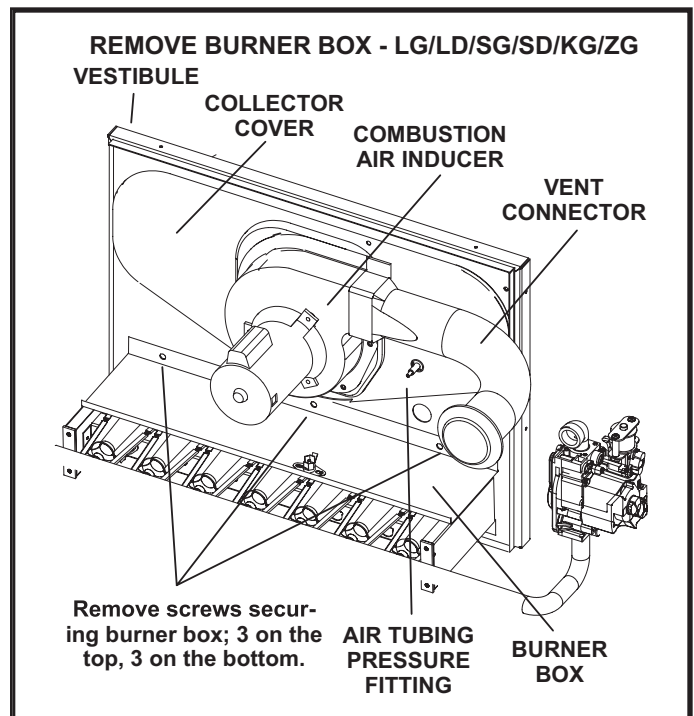

FIGURE 7
- 9 - Disconnect the air tubing to the fitting on the vestibule. See FIGURE 7.
- 10 - Remove the burner box assembly. Retain six screws holding the assembly in place. See FIGURE 7.
- 11 - Remove the vent connector from the combustion air inducer. See FIGURE 7.
- 12 - Remove the combustion air inducer. See FIGURE 7.